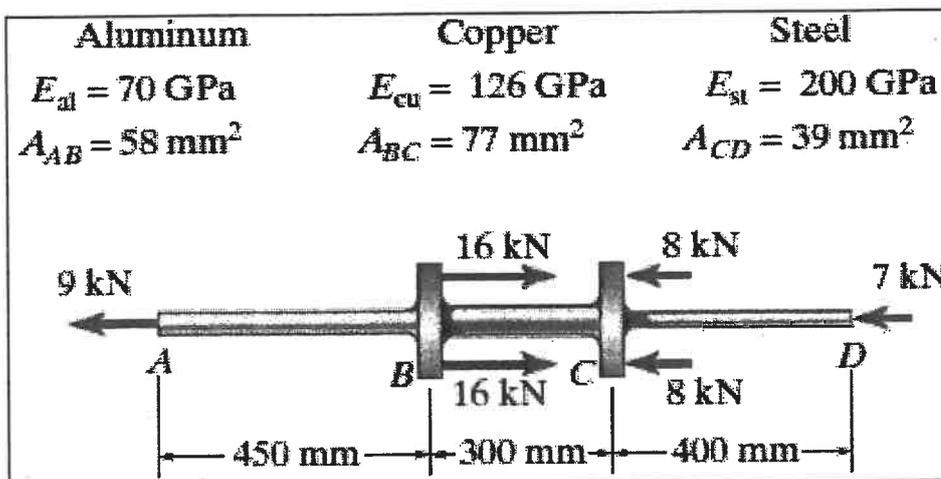

Figure 4
- (b) A composite shaft, consisting of aluminum, copper and steel sections is subjected to the loadings, with the cross-sectional area and modulus of elasticity for each section shown in Figure 4. Neglect the size of the collars at B and C. Determine,